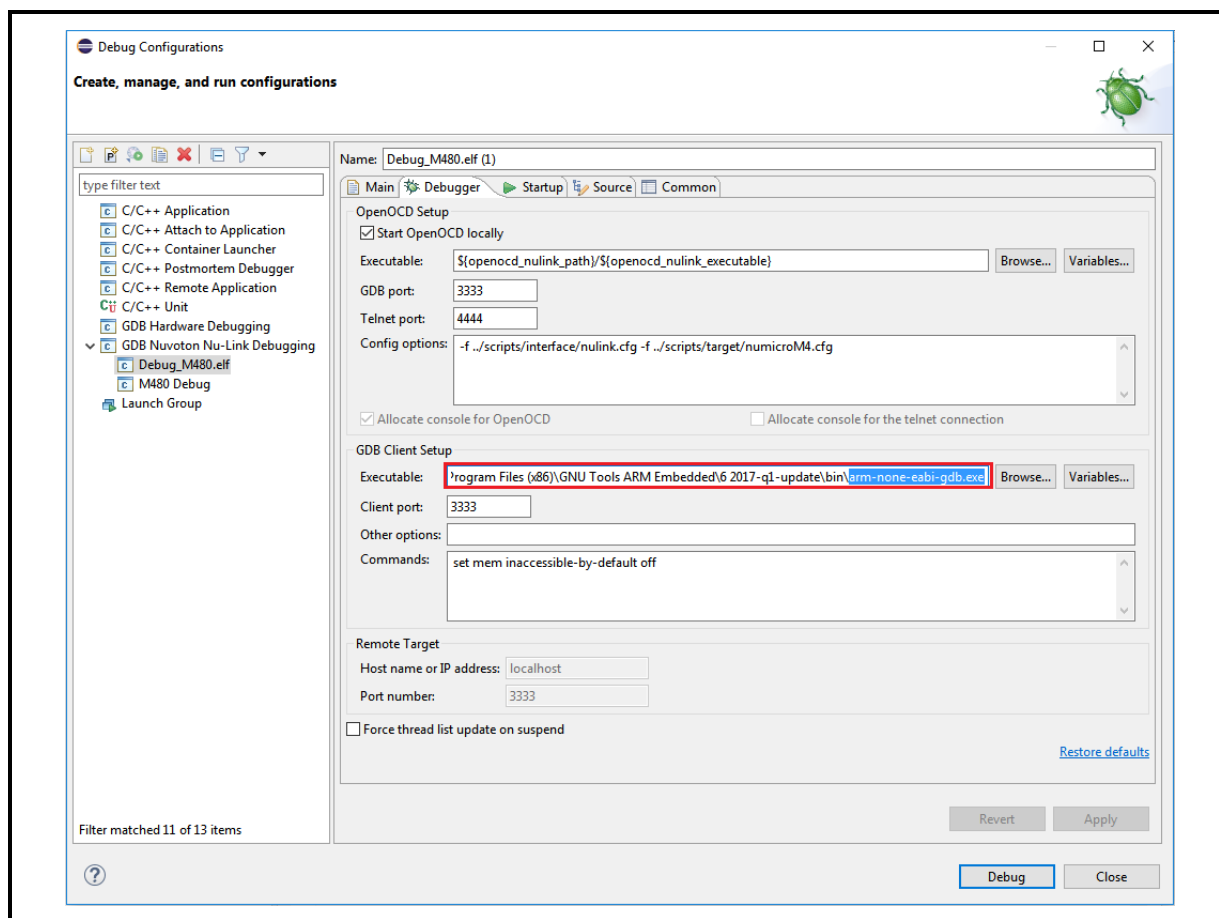

Figure 3-29 Locating the GDB Executable
4. Locate the GDB executable in the debug configuration (referring to Figure 3-29).